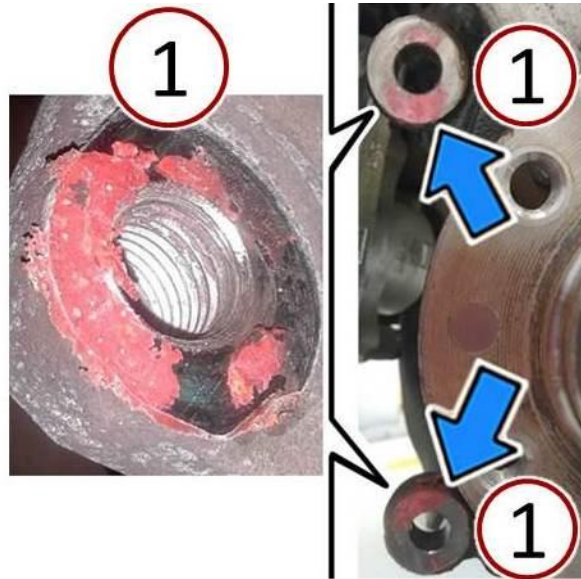

Fig. 5 Clean Off Excess Sealant
12. Clean all the sealant (1) from the contact surfaces between the brake calliper adaptor bracket and the steering knuckle (Fig. 5).